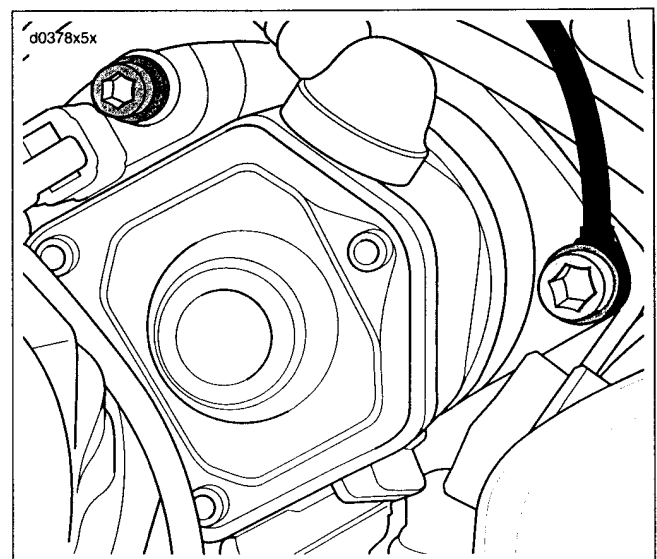

Figure 5-9. Starter Mounting
6. See Figure 5-9. Remove both starter mounting bolts and washers. This includes detaching the engine ground cable.
2. See Figure 5-9. Install the two starter mounting bolts and washers. Place engine ground cable over forward bolt as shown. Tighten to 13-20 ft-lbs (17.6-27.1 Nm).